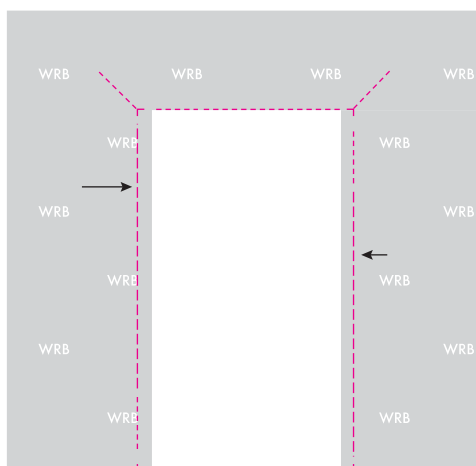

FIG 1 – Rough Opening
- If a weather resistive barrier (WRB) is present, cut WRB across sill and 1 1/2" to 2" past jambs. (FIG 1)